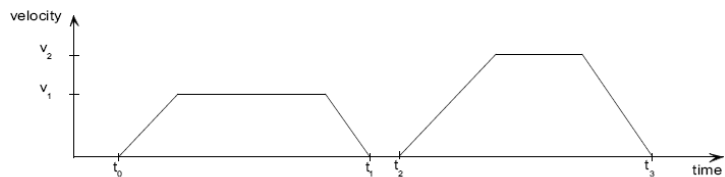

Figure 6.5 Single setpoint
When the setpoint has been transmitted to the drive, the master activates the positioning by setting the 'New setpoint' bit in the control word (2). The drive responds by setting the 'Setpoint acknowledge' bit in the status word (3) once the new data have been detected and saved. Now the master can delete the 'New setpoint' bit (4). The drive signals by deleting the 'Setpoint acknowledge' bit that a new setpoint is accepted (5). In Figure 6.5 the mechanism initiates a speed 0 on reaching the target position at time t1. After the message indicating the target position has been reached, the next target position can be initiated at time t2.